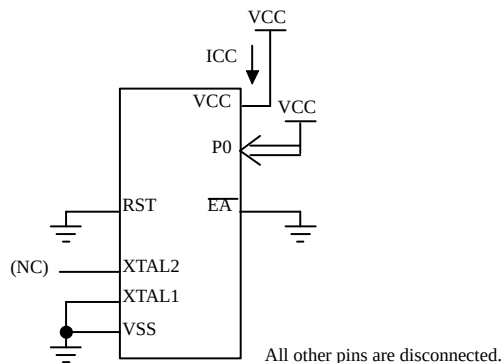

Figure 19. ICC Test Condition, Power Down Mode.
2. Idle ICC is measured with all output pins disconnected; XTAL1 driven with TCLCH, TCHCL = 5ns, $V_{IL} = V_{SS} + 0.5\text{V}$, $V_{IH} = V_{CC} - 0.5\text{V}$; XTAL2 N.C.; Port 0 = V_{CC} ; $\overline{\text{EA}} = \text{RST} = V_{SS}$ (see Figure 19.).
3. Power Down ICC is measured with all output pins disconnected; $\overline{\text{EA}} = \text{PORT 0} = V_{CC}$; XTAL2 NC.; RST = V_{SS} (see Figure 19.).